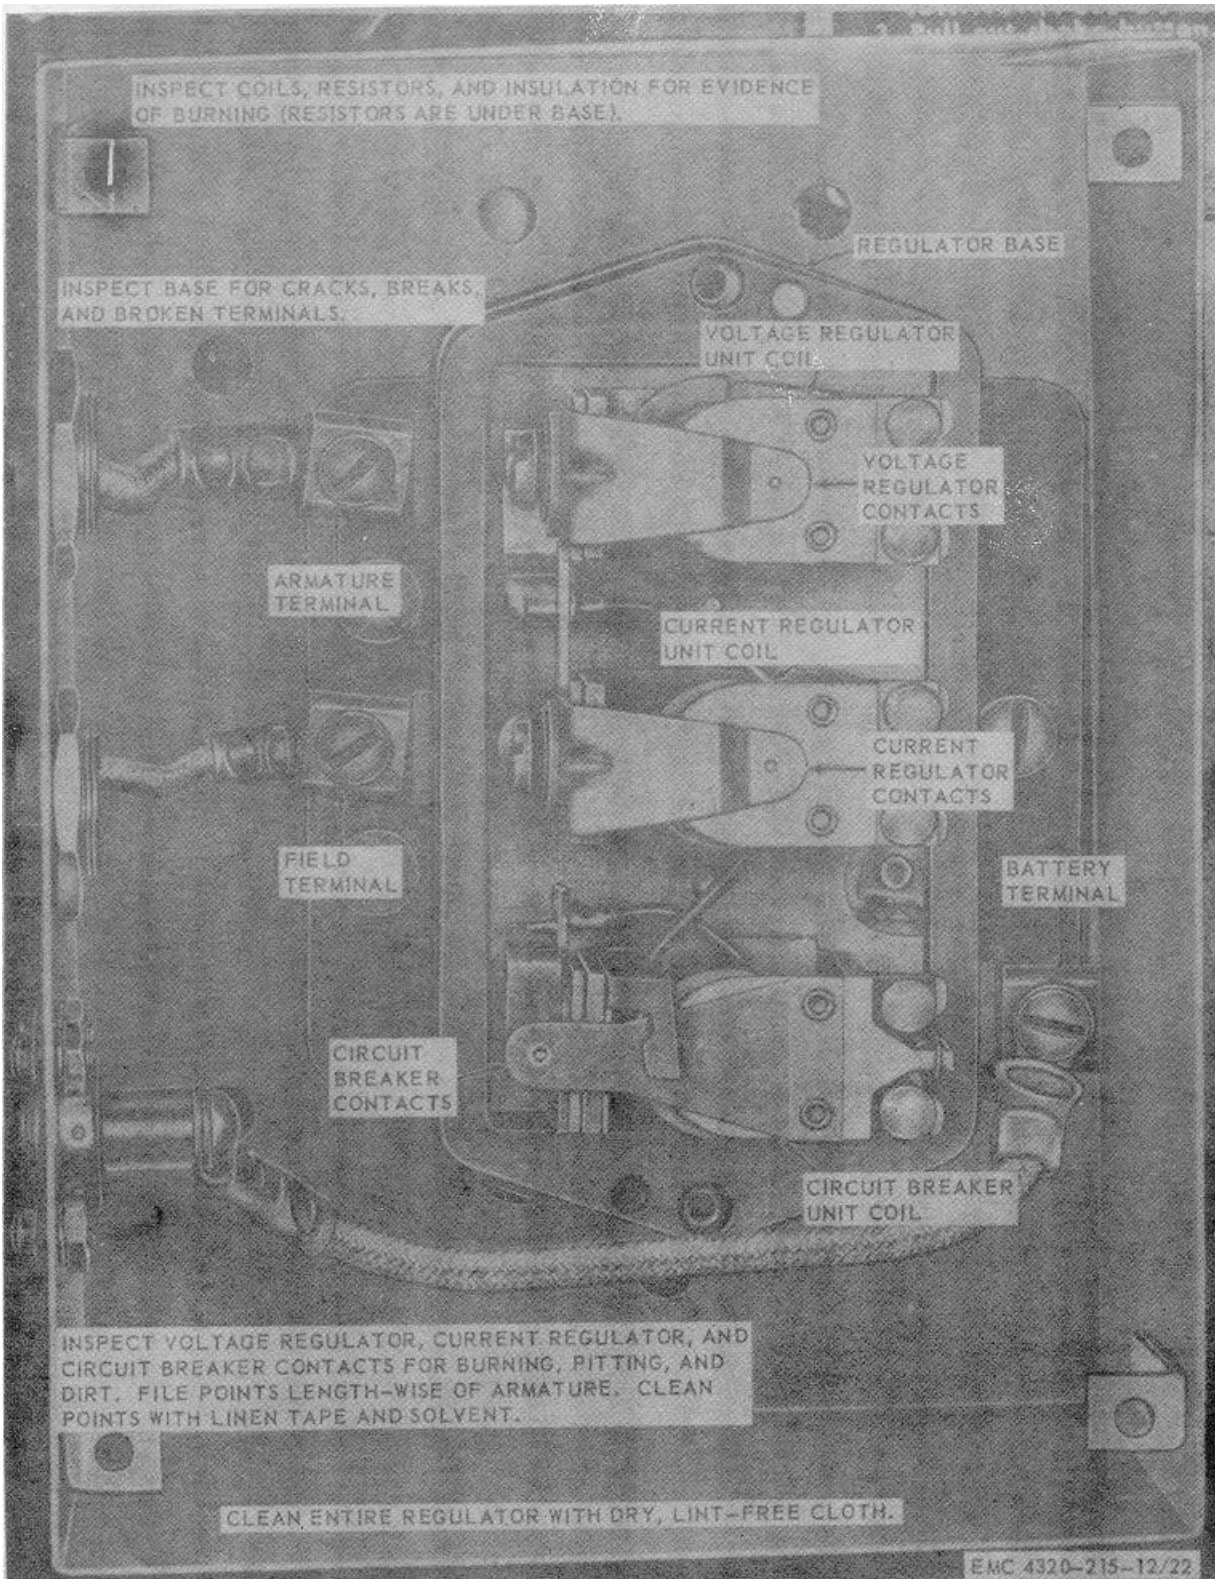

Figure 22. Voltage regulator, cleaning and inspection.
c. Clean and inspect the voltage regulator as shown by figure 22.